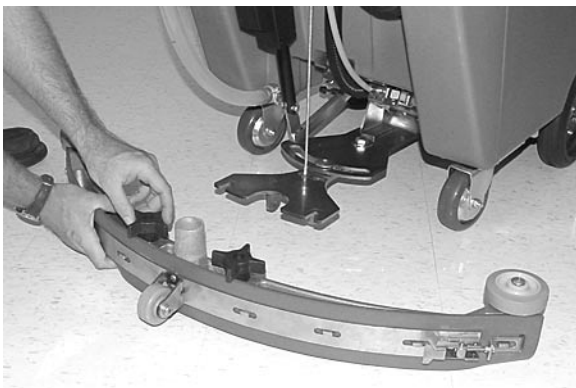

FIG. 4
3. Loosen the two thumb knobs on squeegee assembly and slide squeegee into slots on squeegee mount bracket (Figure 4).